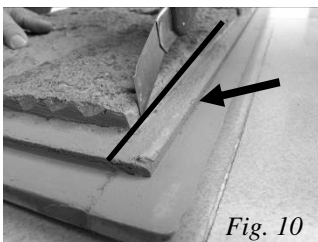

Fig. 10
1. Rip the panel down and remove the screw hem using a table saw (preferable) or hand saw. (Fig. 10) The resulting panel will be 14" in height.